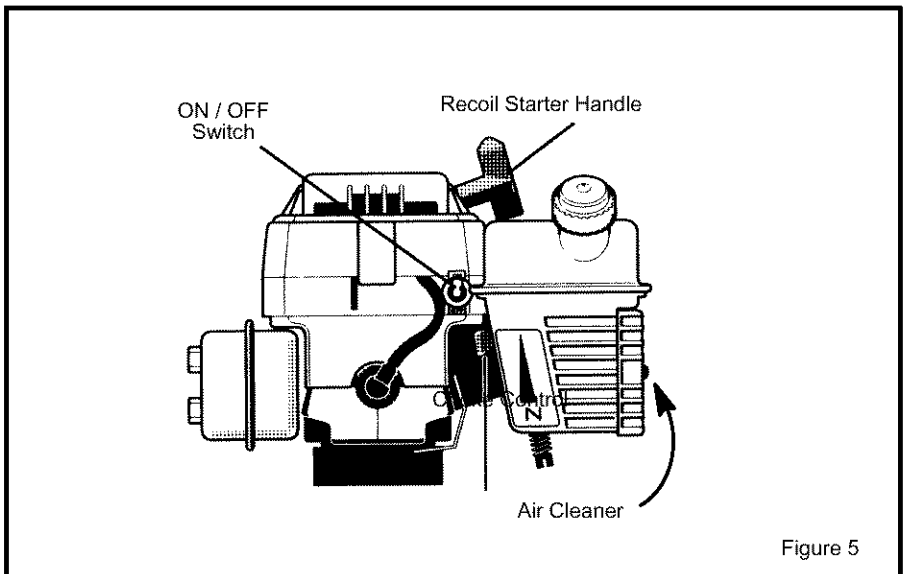

Figure 5
2. Move the on-off switch to the ON position (see Figure 5).